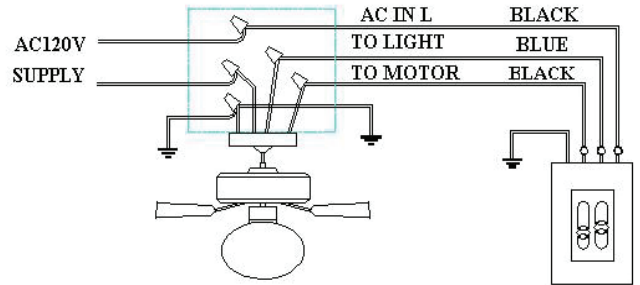

Figure 2
3. Make wire connections and secure with wire nuts supplied, refer to figure 2.
4. Secure the wall-mounted control to the outlet box with two screws provided, refer to figure 2.